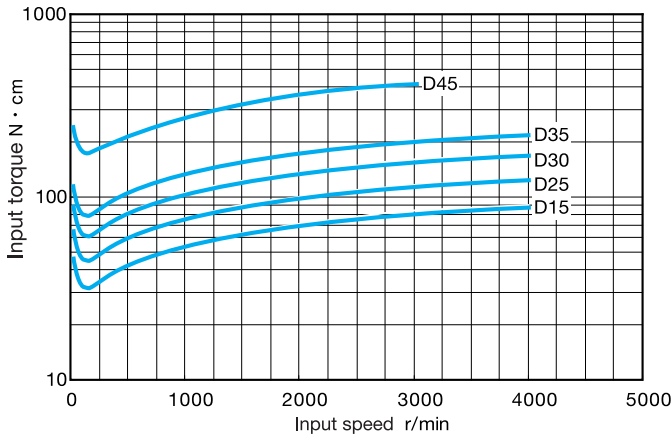

Fig. D-8
- Notes) 1. Fig. D-8 shows average data after reducers have been run.